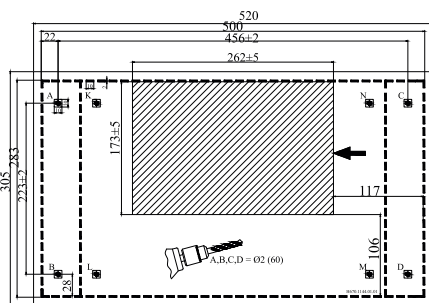

Figure 3 - Installation template
- The SL-series range hoods are designed for hidden installation in a kitchen cabinet. Figure 3 below shows the distances between the installation openings for installation in a kitchen cabinet.
- Mark on the bottom of the cabinet and drill 4 holes with diameter $\varnothing 2$ mm, taking into account the distance between the installation openings specified in Figure 3.